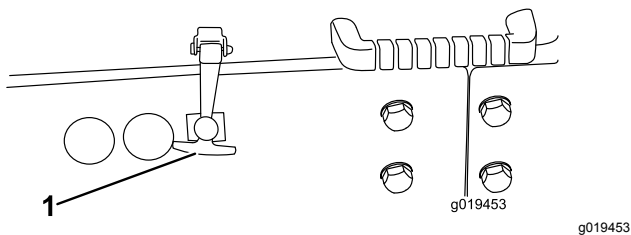

Figure 48
2. Release the hood latch and open the hood (Figure 48).